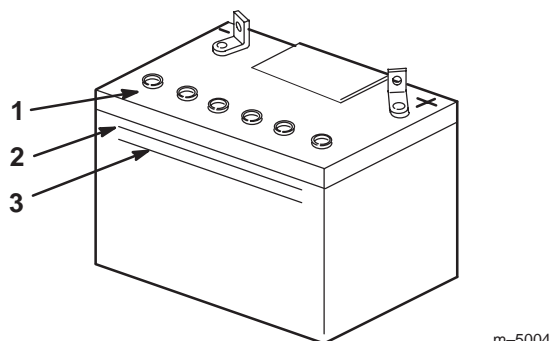

Figure 54
2. Look at the side of the battery. The electrolyte must be up to the **upper** line (Fig. 54). Do not allow the electrolyte to get below the **lower** line (Fig. 54).
3. Remove the vent caps from the battery (Fig. 54).
4. Slowly pour distilled water into each battery cell until the level is up to the **upper** line (Fig. 54) on the battery case.
5. Wait five to ten minutes after filling the battery cells. Add distilled water, if necessary, until the electrolyte level is up to the **upper** line (Fig. 54) on the battery case.